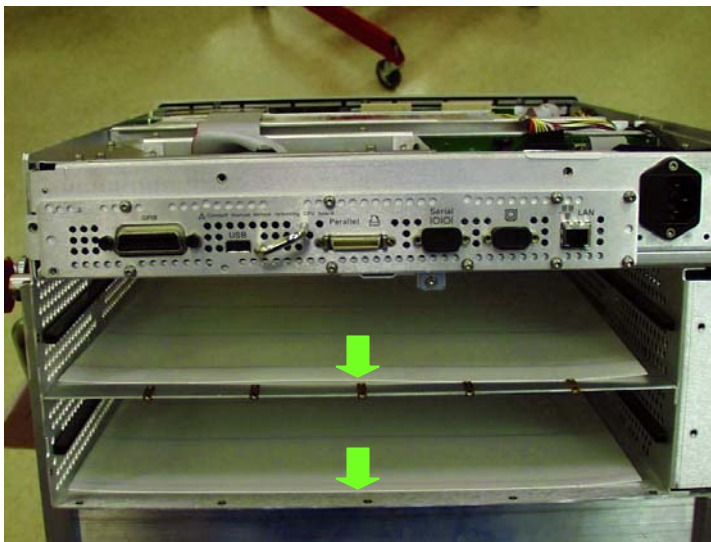

Figure 1 – location of Teflon insulating sheets in A2/A3 slots.
2. Install the white Teflon sheets as shown in Figure 1.